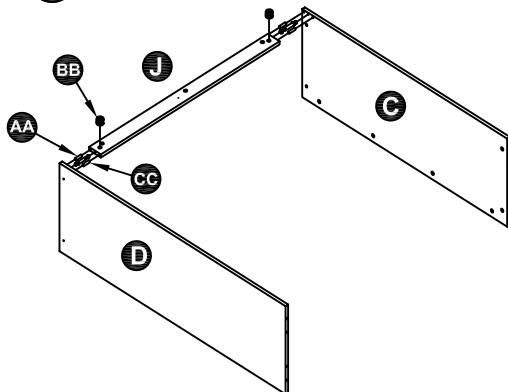

**Figure 2**
2. Insert the cam Locks (BB) and the wood Dowels (CC) separately Left front across panel (G) and right front Across panel (H) And panel (B). Screw in the cam Dowels (AA) Right front side panel (F) and left front side panel (E). Additional Right Side Front side panel (F) and left front side panel (E) Secure it by tightening the cam Locks (BB) As shown in Figure 2.